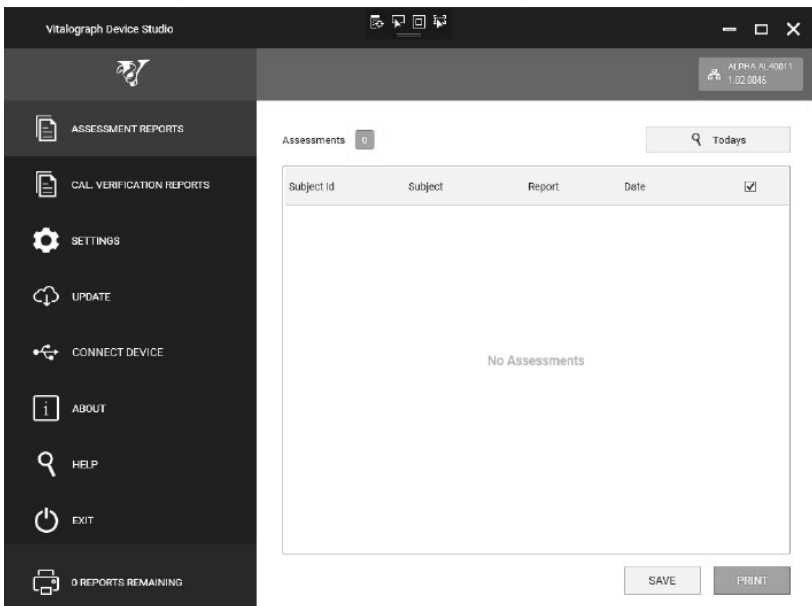

Figure 5.a
3. Device Studio will search for assessments on the device (see Fig. 5.a). Available assessments are shown on screen and may be selected and printed and/or saved (see Fig 5.b).